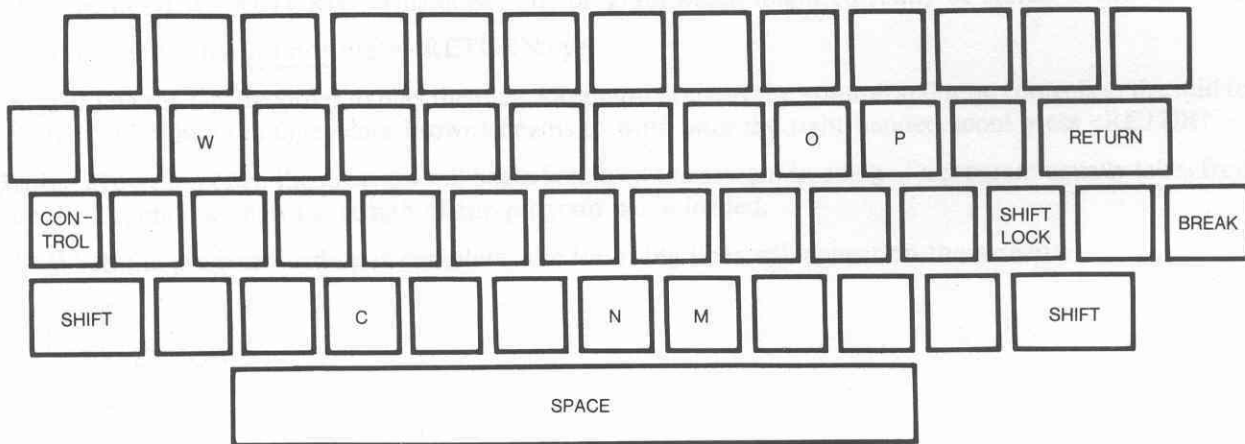

Figure 6: OSI Polled Keyboard
Figure 6 is a sketch of the keyboard on the Challenger 1P. Several keys or key combinations have special uses on the Challenger 1P system. These special keys are summarized in this figure.
1. As indicated in FIGURE 6 in section 6, typing a <SHIFT O> key combination deletes the last character typed. (The <SHIFT O> notation denotes pressing the <SHIFT> and the <O> simultaneously.) Multiple deletions can be made by repeating the <SHIFT O> combination. On the Challenger 1P the character is not actually removed from the input line, but an underscore character is printed for each character deleted.
2. As indicated in FIGURE 6, typing a <SHIFT P> key combination erases the line currently being typed. A "@" character is printed at the end of the line eliminated.